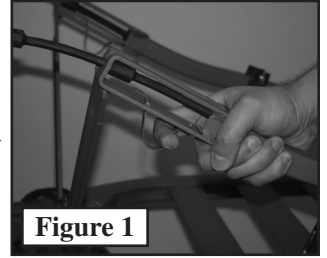

Figure 1
A. Attach the base platform to the tree first. To do this, pull down and hold the QuickDraw cable spring, as shown in **Figure 1**. This will release the locking tab from the cable, allowing you to remove it from the cable bracket.